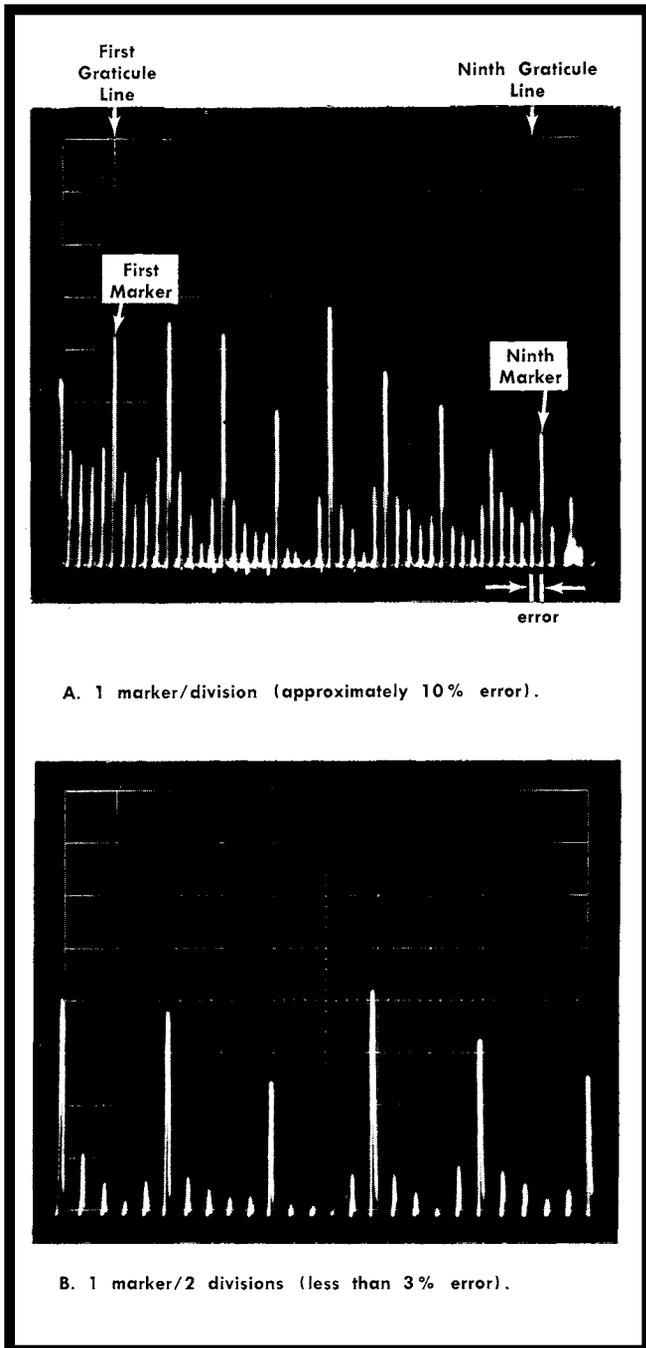

Fig. 5-2. Measuring dispersion accuracy.
a. Requirement—Dispersion accuracy for the MHz/DIV ranges is listed in Table 5-2. IF CENTER FREQ coarse control range should equal or exceed  $\pm 25$  MHz from its centered (000) position. Dispersion accuracy and display linearity must remain within the listed specifications of Table 5-2 to the  $+$  and  $-$  25 MHz positions of the control.
e. Check the dispersion accuracy and linearity for each MHz/DIV setting of the DISPERSION selector as listed in Table 5-2. (See Figs. 5-2 and 5-3.) The Horizontal POSITION control or the IF CENTER FREQ control may be used to align the prime markers to the graticule divisions. As the DISPERSION is decreased, the RESOLUTION control should remain in the coupled position.